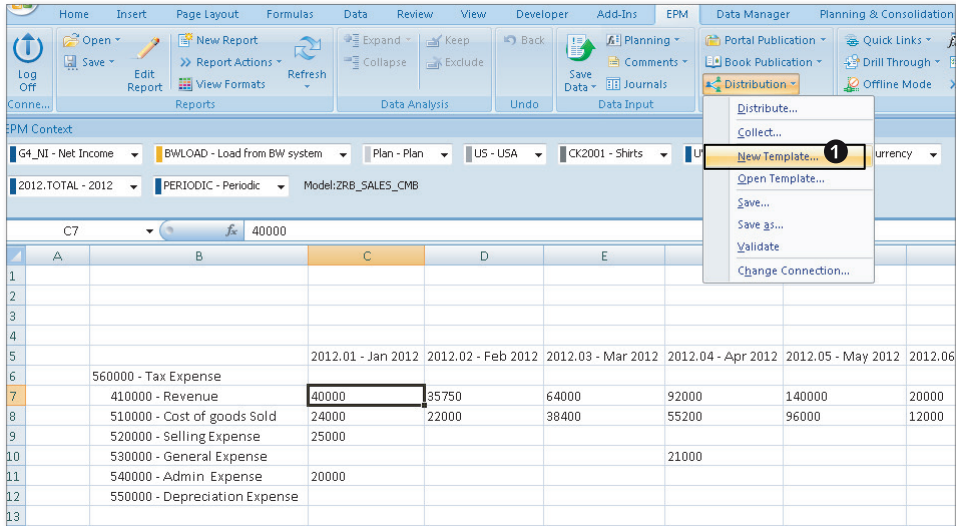

Figure 7.16 Creating a Distribution Template—Part A
Before we begin creating a distribution template using the input form that is displayed in Figure 7.16, recall that we created this input form in Chapter 5.
2. From the EPM tab of the Excel interface, select the NEW TEMPLATE menu option under the DISTRIBUTION menu (Figure 7.16, ❶).